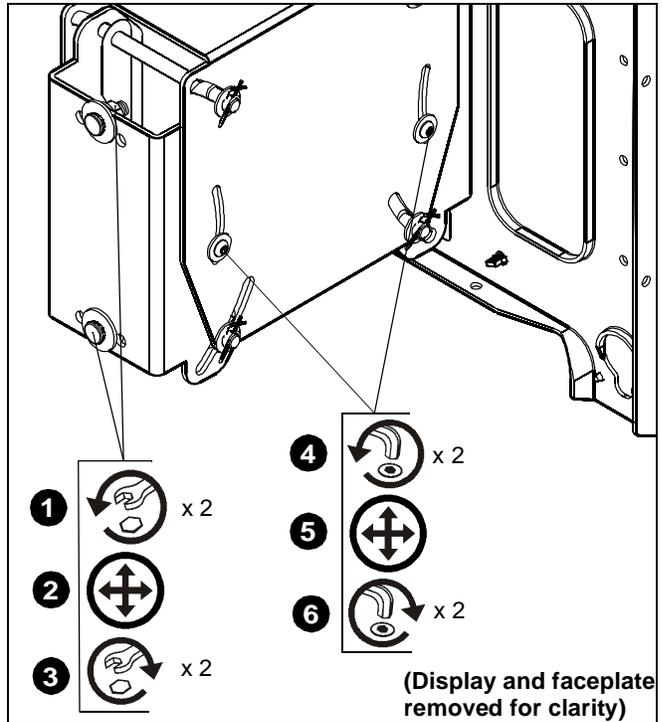

Figure 4
1. Loosen two Nylock nuts inside the PDC. (See Figure 4)
4. Loosen two screws on side of PDC. (See Figure 4)